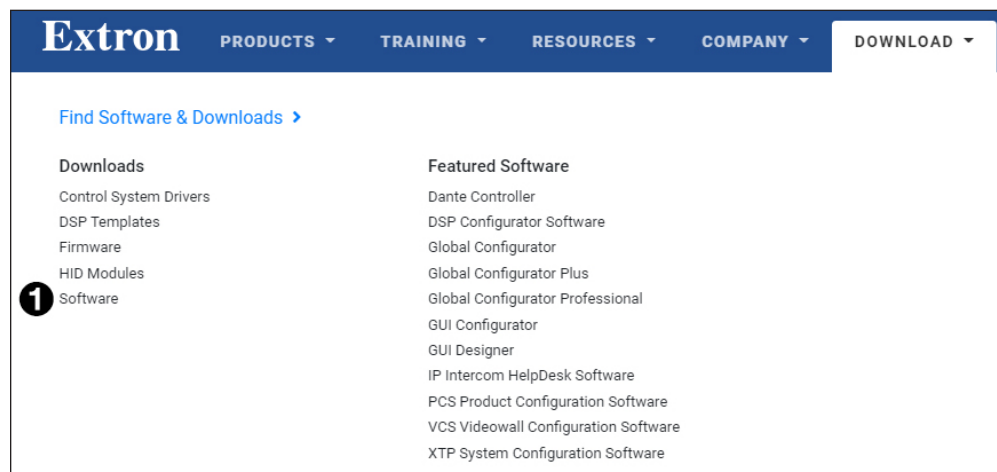

Figure 19. Extron Website Download Page
1. On the Extron website, go to the **Download** tab and click **Software** (see figure 19, ①).